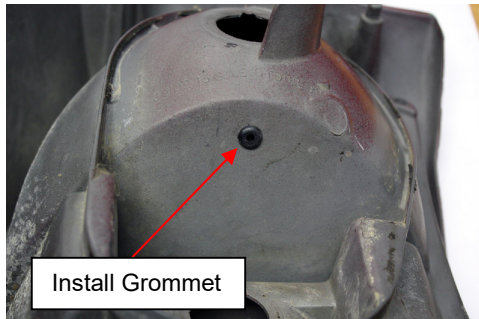

Figure 1
- 3.1. While viewing the housings from the bottom, drill a 3/16" diameter hole in line with the bulb socket hole and on the flat section of the housing. The exact location of this hole is not important. After drilling, deburr this hole. (See Figure 1)